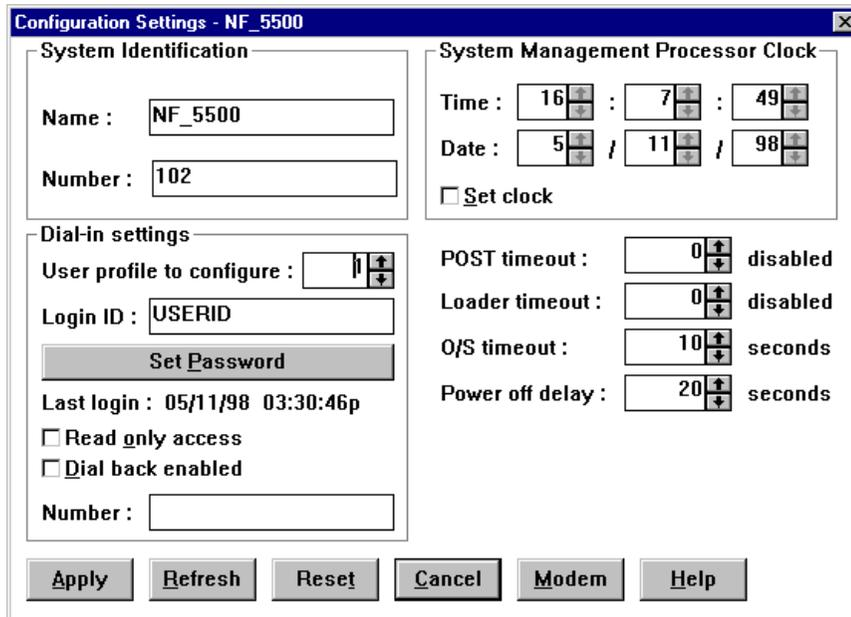

Figure 196. Advanced Remote Management Processor Dial-In Settings
1. Either at the server or via Remote Systems Manager in Netfinity Manager, open the **Configuration Settings** window in the Advanced System Management function of Netfinity Manager. Figure 196 appears: